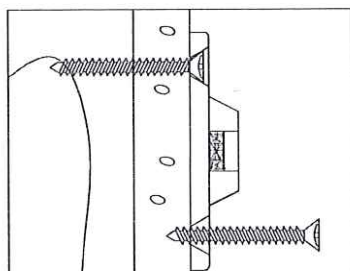

Figure 2
- 3) MOUNTING THE WALL-SIDE BRACKET:** Position the wall-side bracket along the selected stud mark so that it will be adjacent the furniture-side bracket when the furniture item is moved to its final position. The wall-side bracket should be about ONE inch lower than the furniture-side bracket (See Figure 3). Use the TWO long screws to secure the wall-side bracket to the wall. Remember to position the wall-side bracket vertically so that both screws will engage the selected wall stud (See Figure 2).